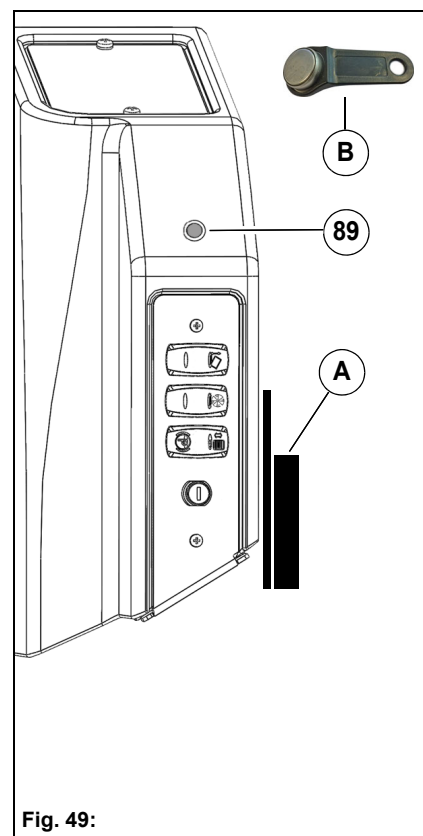

Fig. 49:
The Fleet entry.X **Fig. 49-A** records operating times and further operating conditions of the machine.
- Press the iButton Key **Fig. 49-B** against the iButton Reader **Fig. 49-89** for one to two seconds.